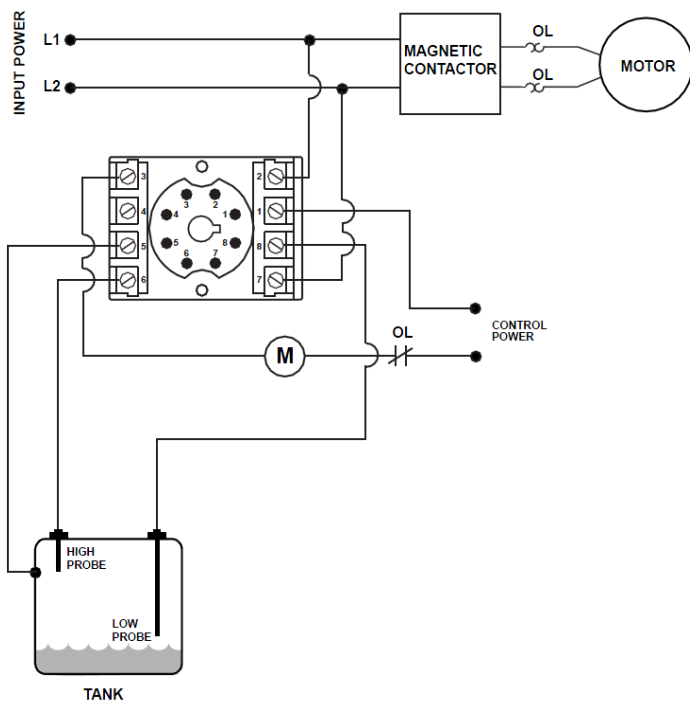

Figure 2: Typical Pump Control Wiring Diagram
3. For pump motor control, connect the normally open contact, socket terminal 3, and common, socket terminal 1, in series with the motor's magnetic contactor coil (M) as shown in Figure 2.